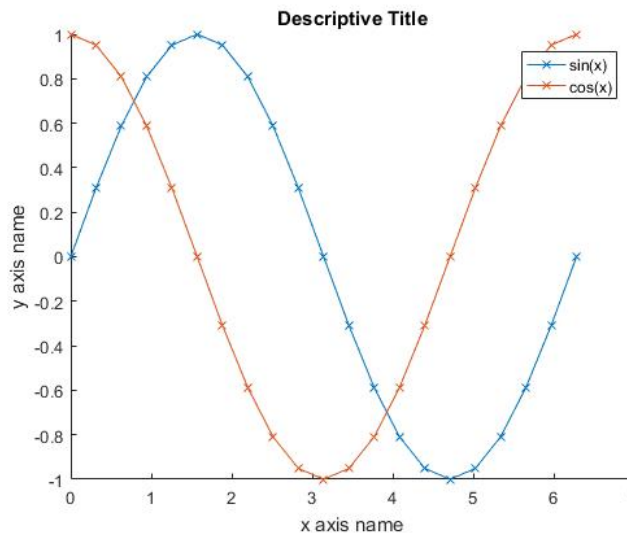

Figure 4. Sample Plot
3. The plots for kinematics "Task 1" (*instantaneous speed5 of the right servo vs time*) and "Task 2" (*speed of both wheels vs input: for fully charged batteries & low batteries*) referred on section B.2.2 (3 plots in total). All plots must include title, axis names, units, sufficient tick marks and legend (if plotting more than one graph). Also, each data point should clearly be marked with a symbol. Plots of a variable vs time should always place time on the x-axis. See sample plot in Figure 4.